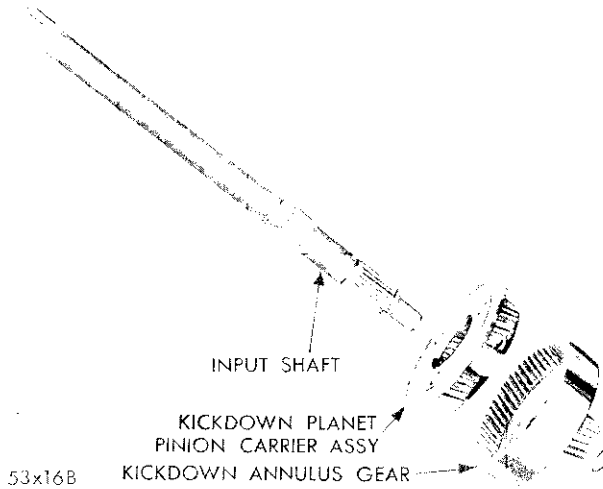

Fig. 26—Input Shaft, Kickdown Planet Pinion Carrier and Annulus Gear (Disassembled View)
(5) Remove kickdown planet pinion carrier assembly from input shaft. Check all oil passages in both the gear and shaft for obstructions. Inspect splines and bearing surface on input shaft for burrs and wear. Inspect snap ring groove (Fig. 26).